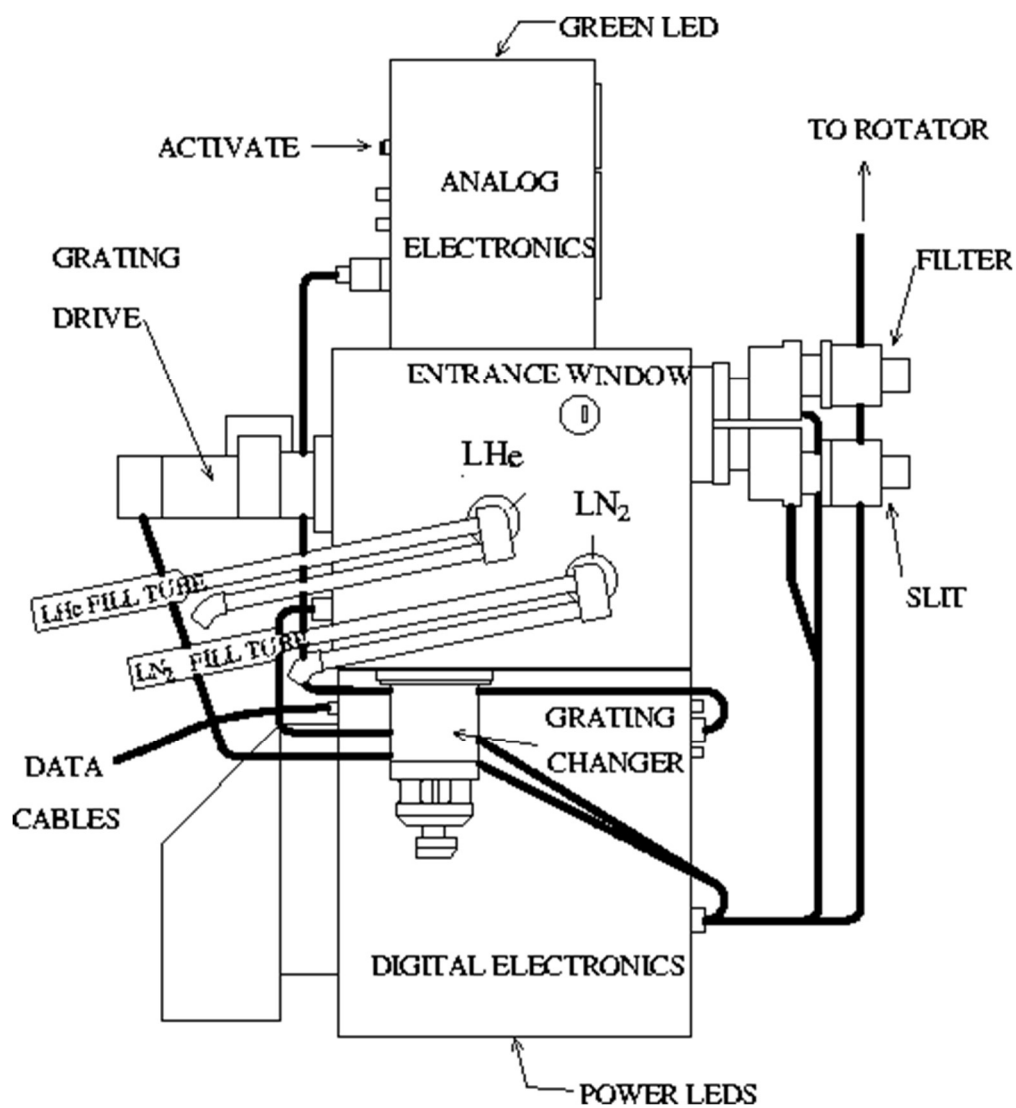

Fig. 1 Top View of CRSP
- Align the fill tubes in the direction indicated in Fig. 1 (CRSP top view), make sure window cover is removed and cart in down position. Roll cart into box, being very careful not to bang fill tubes into anything.
- Install telescope cable wrapup. The two power cables connect to the left hand side of the DCU, as seen from the top (Fig. 1). The other ends go to the Cassegrain junction box connectors "CCD Power" and "Aux Power". **Note:** Do not connect the larger power cable to the "PS-10" connector by mistake!
The WILDFIRE electronics generate sufficient heat that they must be actively cooled. The air vent fixture kept in the CRSP box should be installed on the left side of the DCU (Fig. 1, 3). The vent hose (at telescope where it exists) should be attached to this fixture and the vent fan turned on before powering up the electronics. Alternatively, one may attach a fan directly to the vent and exhaust the warm air into the dome at sites where the vent hose has not been effectively installed.
- If detector is below 77 K (det temp sensor reading  $> 0.99$ ), activate by pushing the blue button on the right side of the ACU (Fig. 1). The green LED should be illuminated, visible through the hole in the ACU cover.